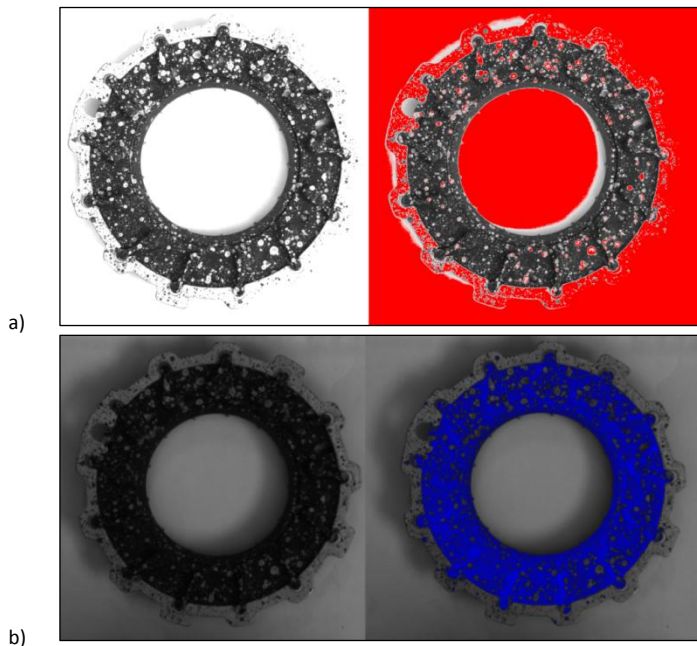

Figure 18: Coloring of a) overexposed areas, b) underexposed areas.
- **Show Highlights/Lowlights (shortcut: H/L)**  – Marks the overexposed/underexposed areas with red/blue color as shown in Figure 18. Both overexposed and underexposed areas of the image cause loss of information and are therefore unsuitable for forming places upon which the measurements take place.